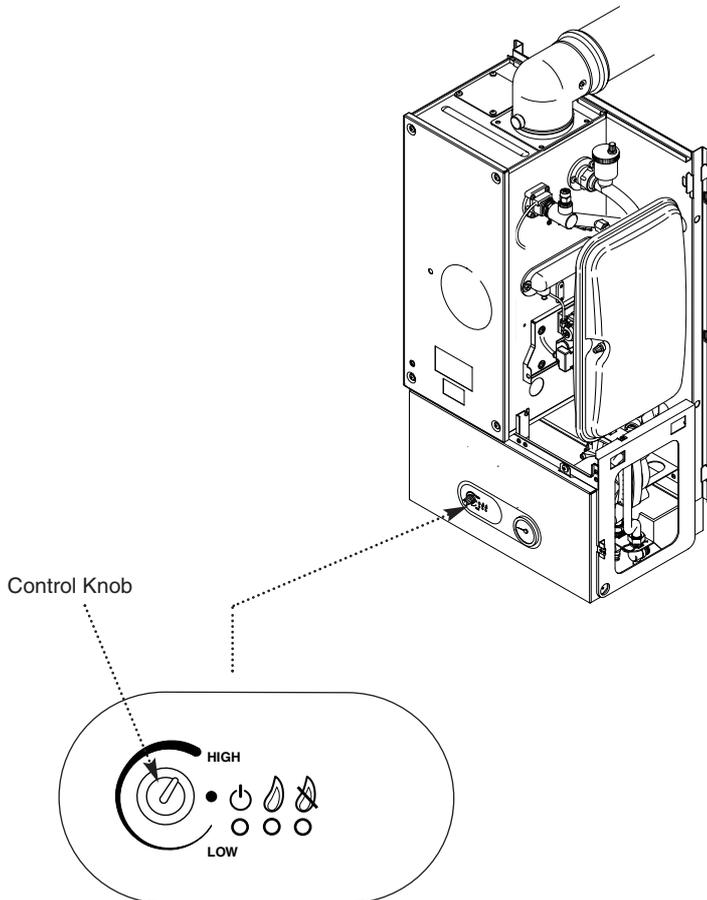

Fig. 34
6. Turn the boiler control knob fully clockwise to 'high' (Fig. 34) and run the system and check the boiler for correct operation.